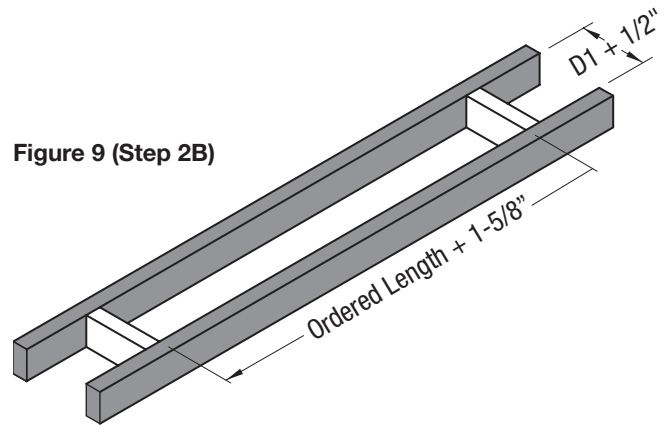
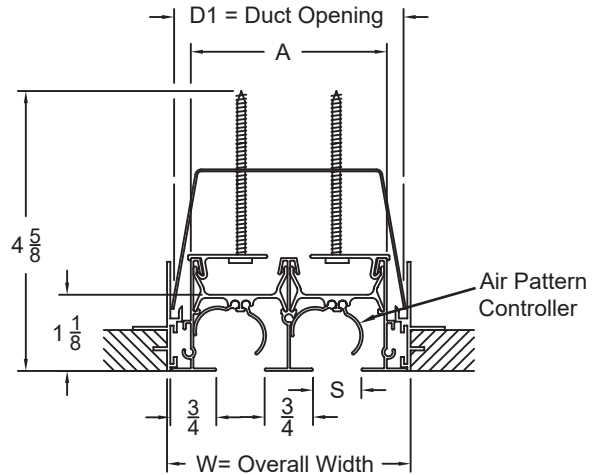

Figure 9 (Step 2B)
Figure 10 (Step 2B): XG-6600-22-73 Cut Section
- B. In general, the length of the opening within the framing should be the ordered size + 1-5/8" if the unit has end borders, and if the unit has end caps, the length of the opening should be the listed size + 1/4" (see Figure 9) and the opening width should be the "D1" dimension from the Greenheck XG-6600-22-73-74-75 submittal plus 1/2". For convenience, we have provided the dimensional drawing (see Figure 10) and dimension table (see Figure 11) from the XG-6600-22-73-74-75 submittal (please note the most up-to-date information will be on the submittal).